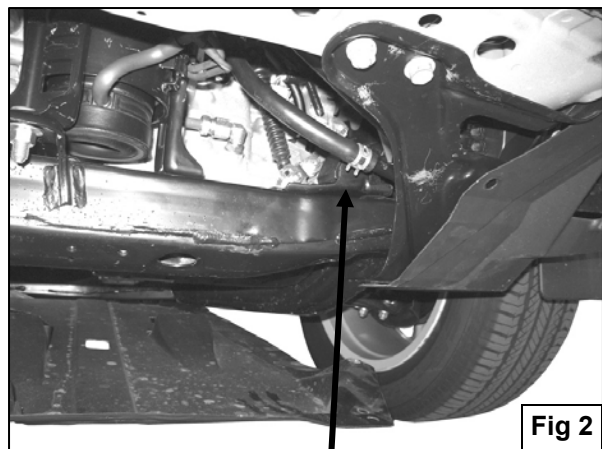

Fig 2
4. On the top of the driver side of the cross member bar there is a factory metal bracket obstructing the mounting hole location for the driver side Support Bracket. Use a 10mm socket to remove the two factory bolts holding the bracket to top of cross member (**Figure 2**).